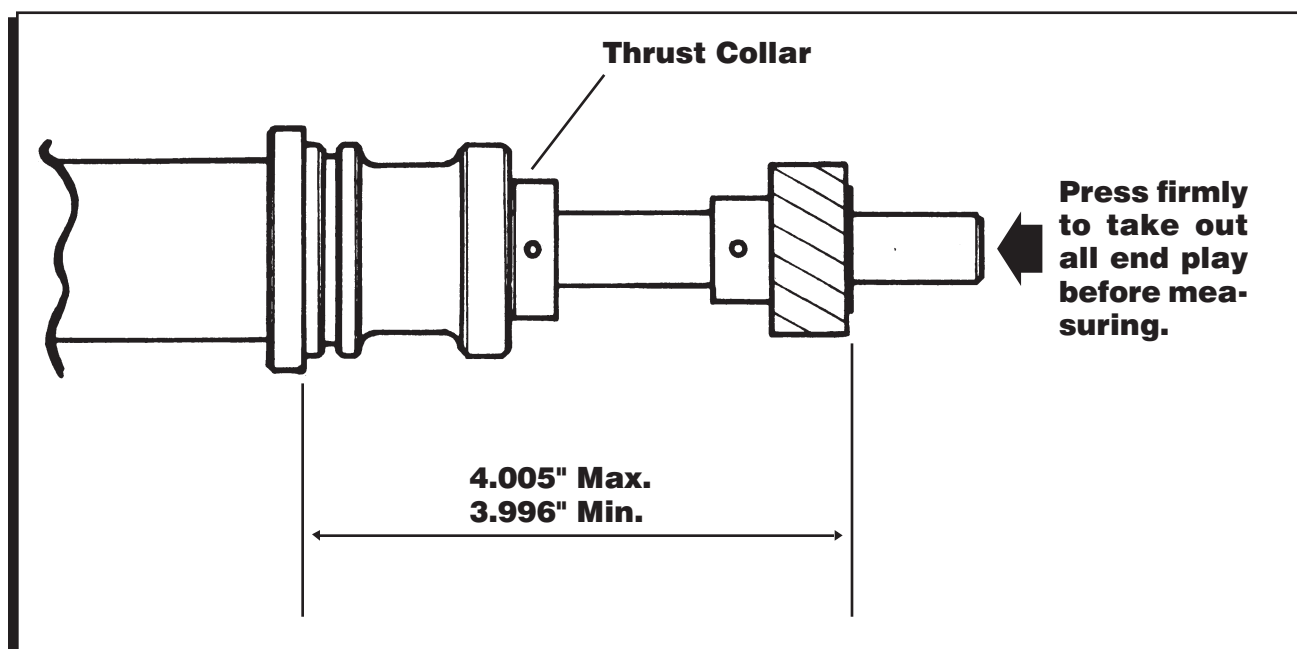

Figure 1 Gear Installation Specifications.
1. With the endplay of the distributor shaft removed, measure the distance from the bottom of the gear to the bottom of the mounting flange (Figure 1). It should be within the specifications shown.
2. Press the new gear into position on the shaft. Measure the distance as shown in Figure 1 before drilling the new roll pin hole.